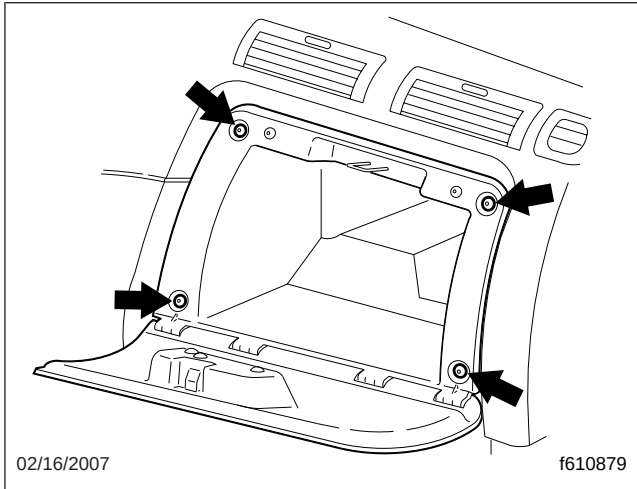

Fig. 2, Glovebox Assembly Fasteners
7. Remove the glove box assembly by removing the four Torx screws; see Fig. 2.